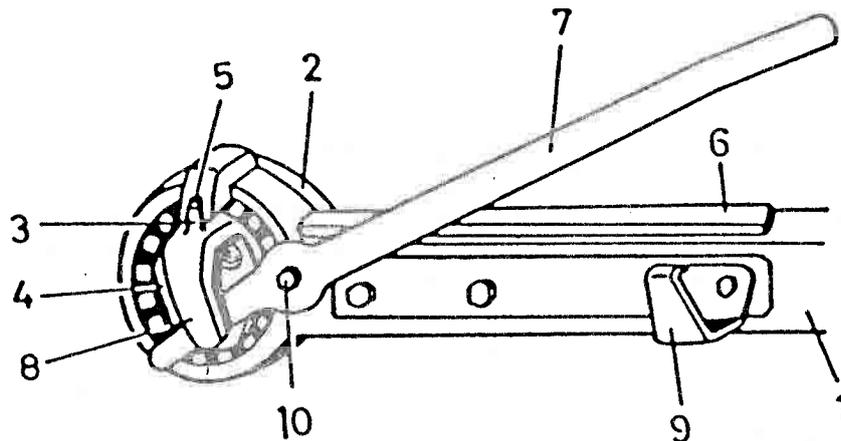

Figure 4
6. MONTAGE DE LA BIELLE DE TRANSMISSION (figure 4)